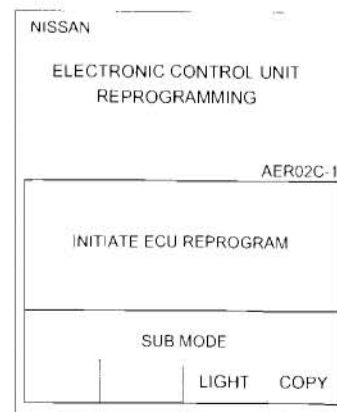

Figure A12
- CONSULT-II will turn ON automatically (see Figure A12).